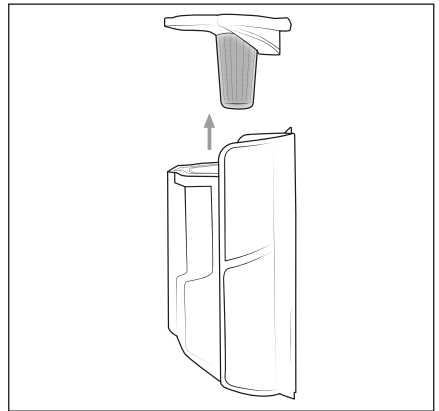

Fig. 16
- 3) Remove the stainless steel filter **6** from the dust container **7** by reaching into the opening of the stainless steel filter **6** and pulling it out of the dust container **7** (see Fig. 16).